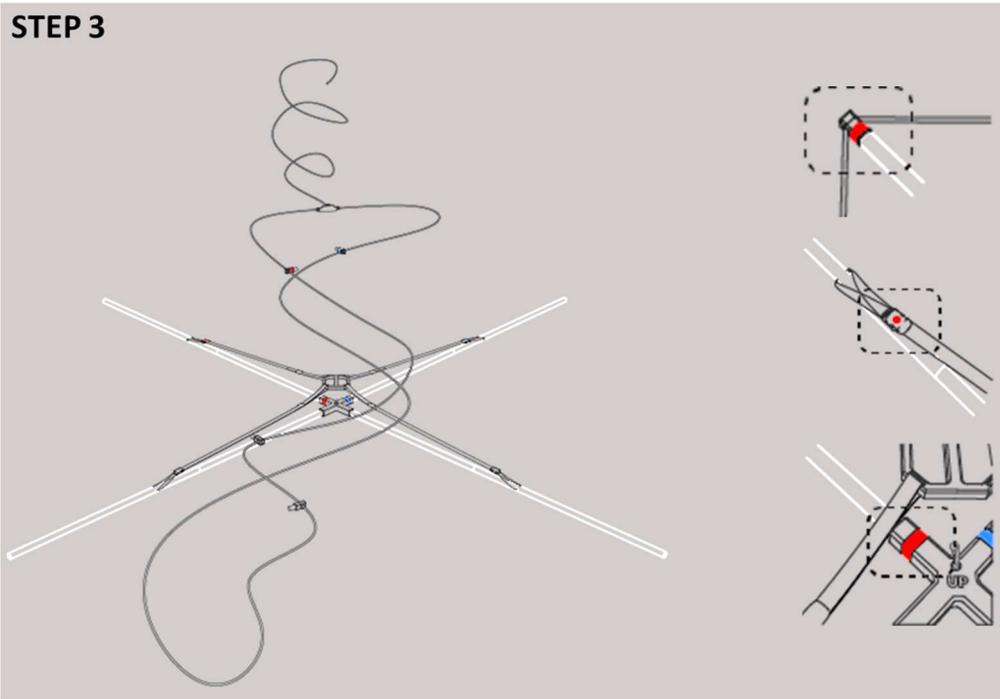

Figure 13. Mounting Rx and Tx coils.
- Red and blue markers indicating the orientation of the coil (see Figure 13).